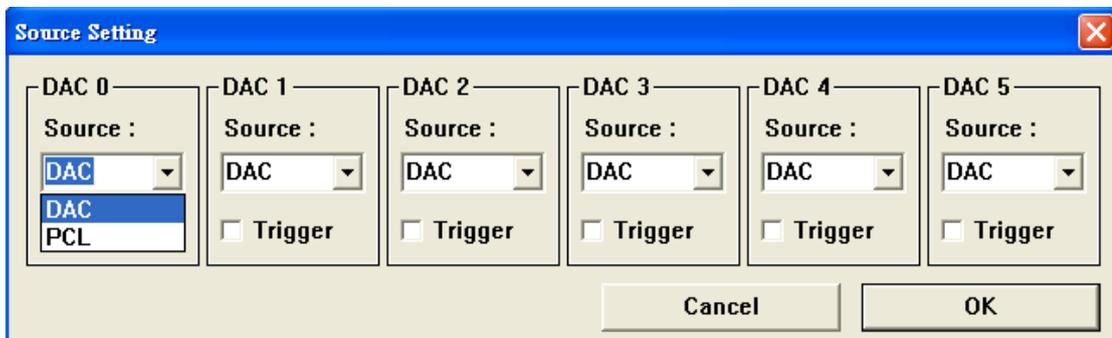

Figure 4-9.8
(7) Set DAC source selection (as shown in Figure 4-9.8)
**Trigger:** The “Trigger” box should be checked if it is desired to use the automatic DAC voltage output function stated in Sections (2), (3), (4), (5), and (6).